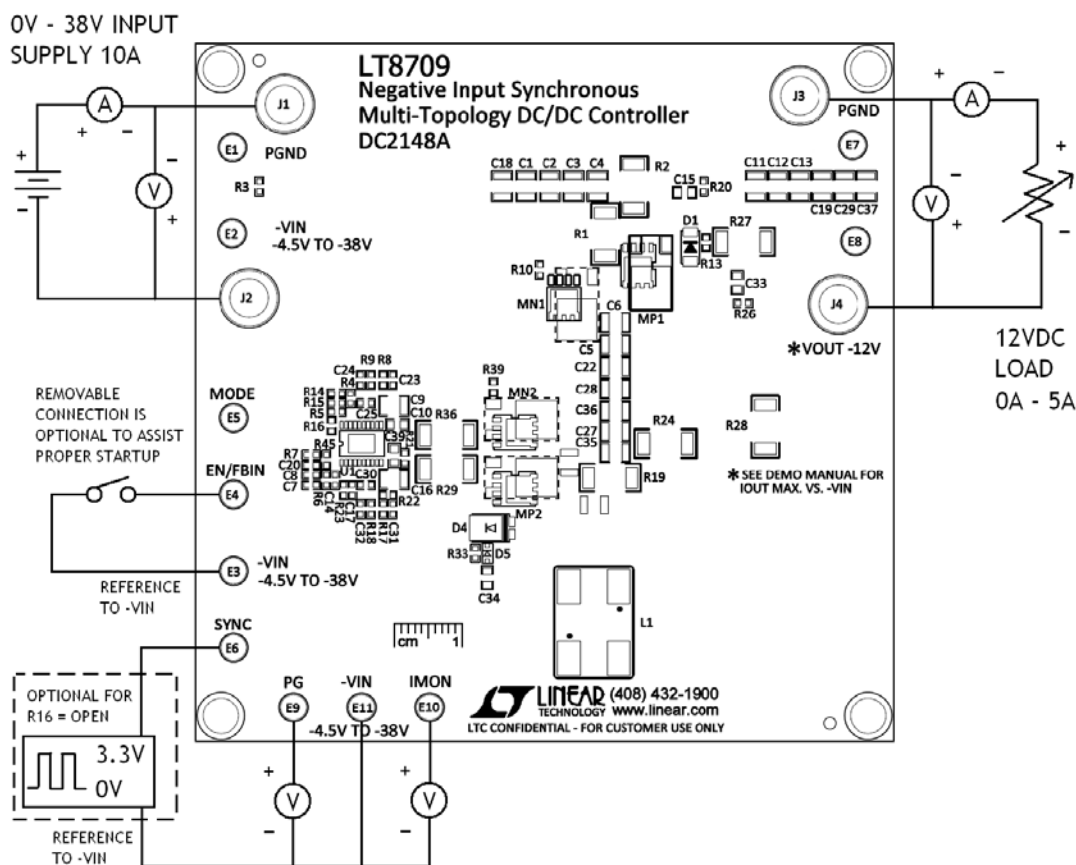
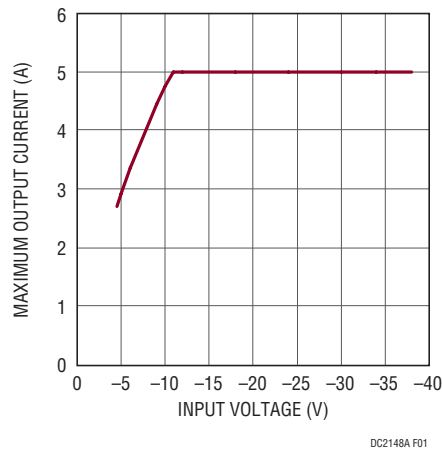

Figure 1. Proper Measurement Equipment Setup for DC2148A
Figure 2. Maximum Output Current vs Input Voltage
| Maximum Output Current (See Figure 2), I_{OUT} | $-12\text{V} > V_{-VIN} > -38\text{V}$ $V_{-VIN} = -4.5\text{V}$ | 5 | | | A |
To use DC2148A to evaluate the performance of the LT8709, refer to Figure 1 for the proper measurement equipment setup, Figure 2 for the maximum output current versus input voltage and then follow the procedure:
1. Connect the EN/FBIN terminal to $-V_{IN}$ with a clip-on lead. Connect the power supply (with power off), load, and meters as shown in Figure 1.